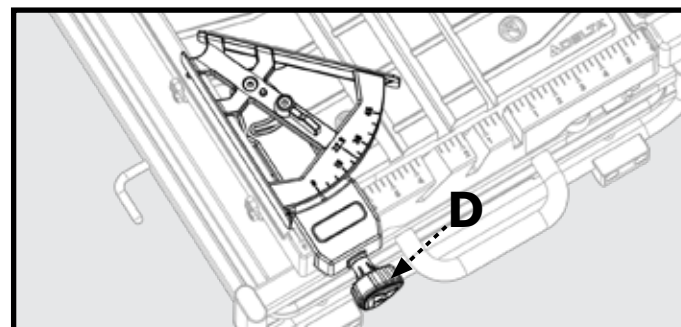

Figure 15
1. Attach the Miter Gauge (3) by placing it over the front edge of the table and tighten in place using the Miter Lock Knob (D) as shown in Figure 15.